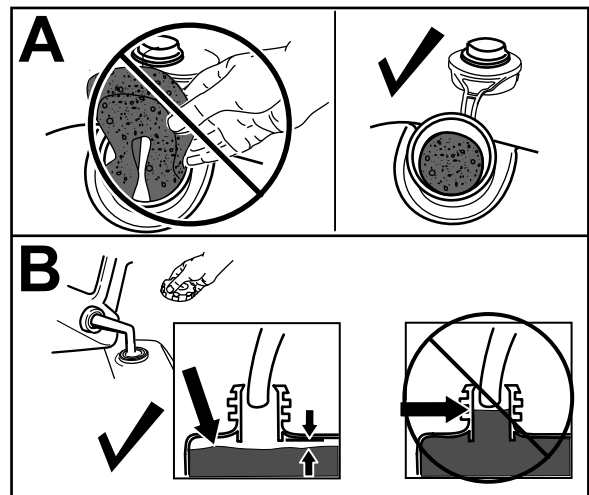

Figure 10
**Important:** This machine is equipped with a premium fuel tank that uses a foam insert to prevent fuel agitation. Never remove the foam element, because it allows the engine to use all the fuel in the tank (A of Figure 10).
**Note:** Do not fill the fuel tank above the bottom of the fuel-tank neck (B of Figure 10).